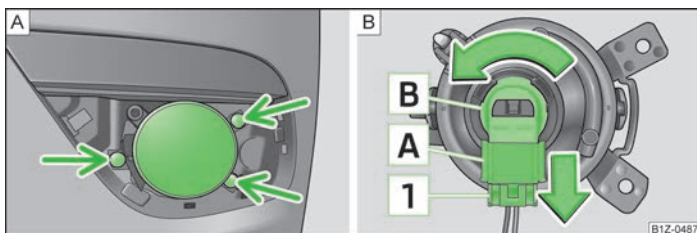

Fig. 166 Front bumper: Fog lights/fog lights: Replacing the light bulb
- Unscrew the screws with a screwdriver » Fig. 166 - **A**.
- Press the locking button **1** » Fig. 166 of the plug **A** and remove the plug from the socket **B**.